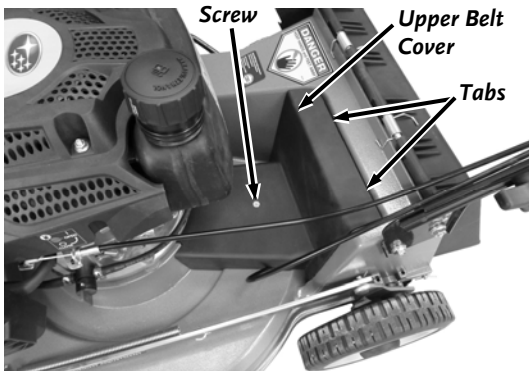

Figure 18
1. Remove the Screw from the upper Belt Cover and remove the Belt Cover (**Figure 18**).